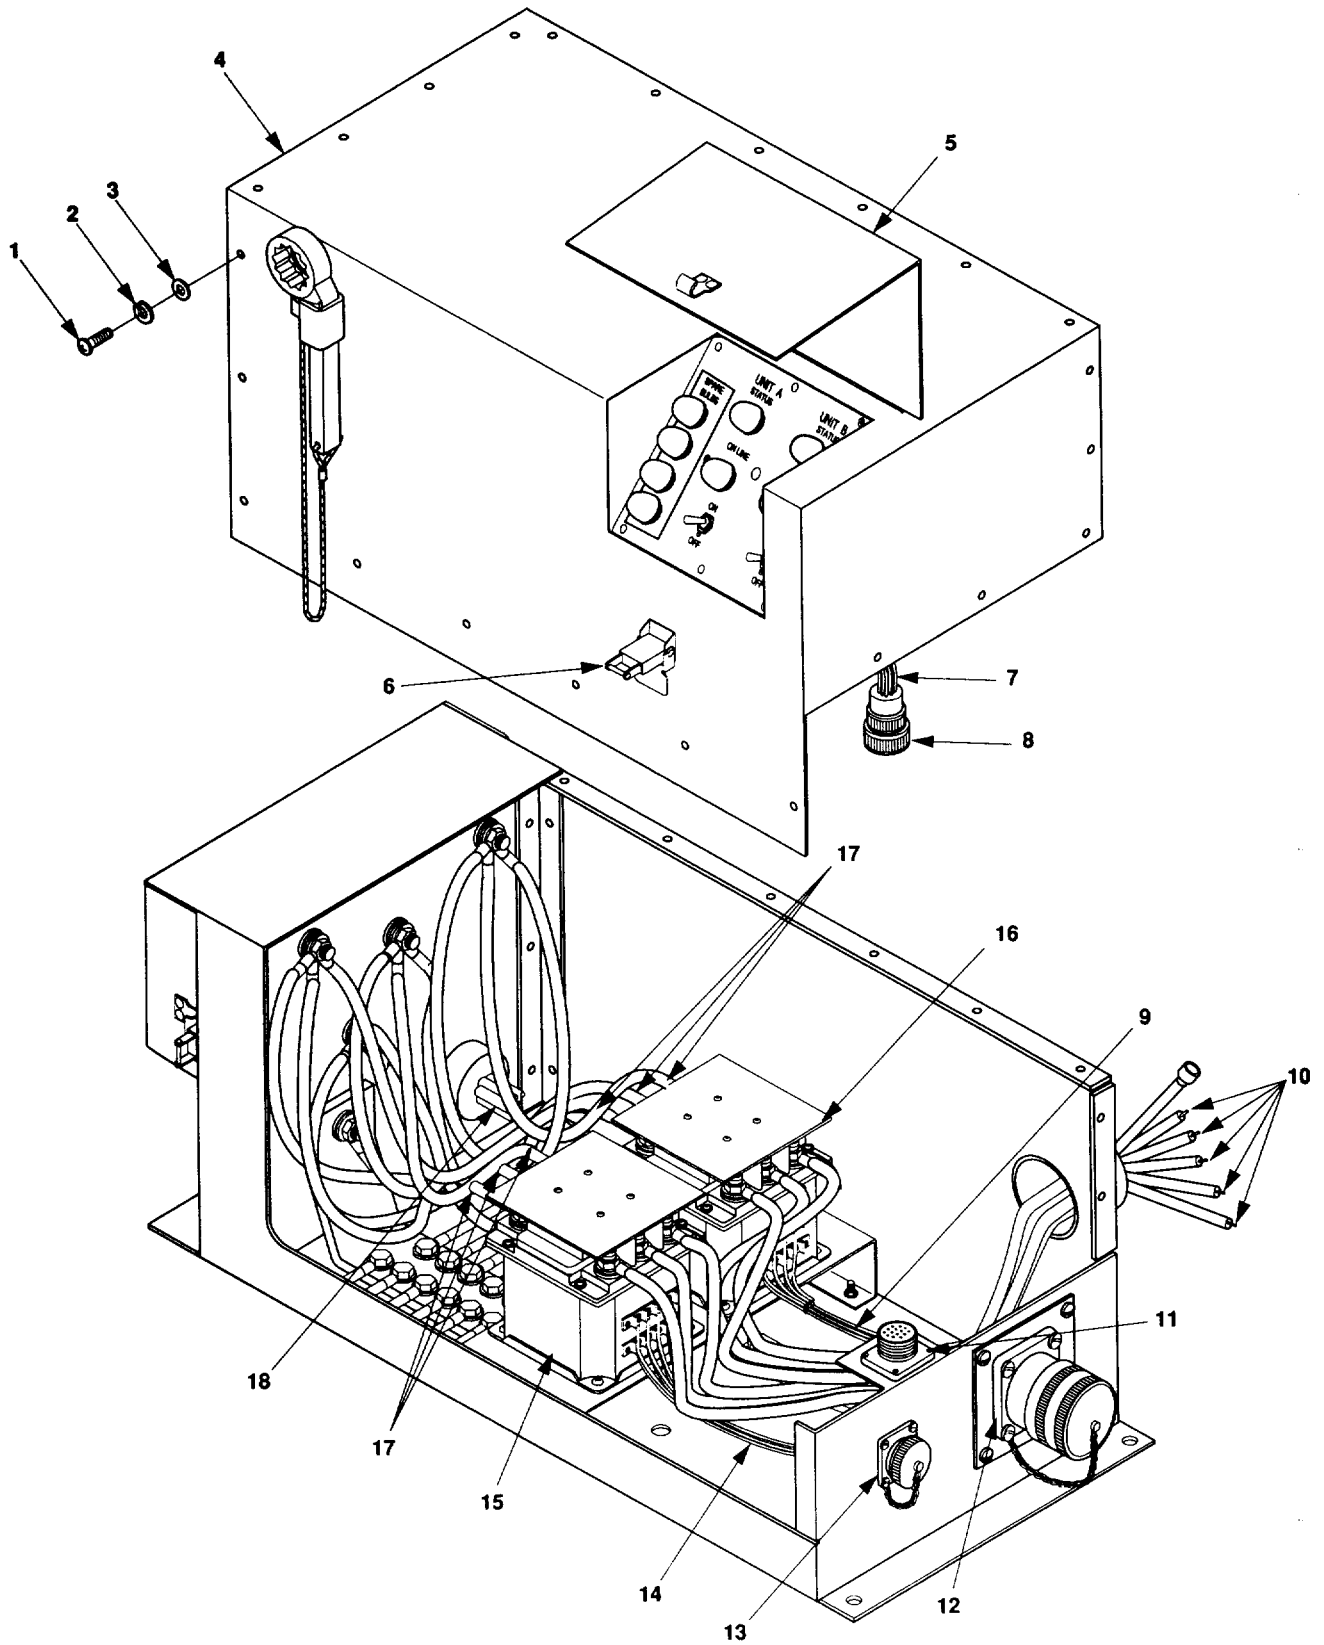

Figure 5-11. Switch Box Assembly Test.
- a. Remove 21 screws (1, figure 5-11), flat washers (3), and lock washers (2) that secure the switch box cover (4) to the switch box assembly.